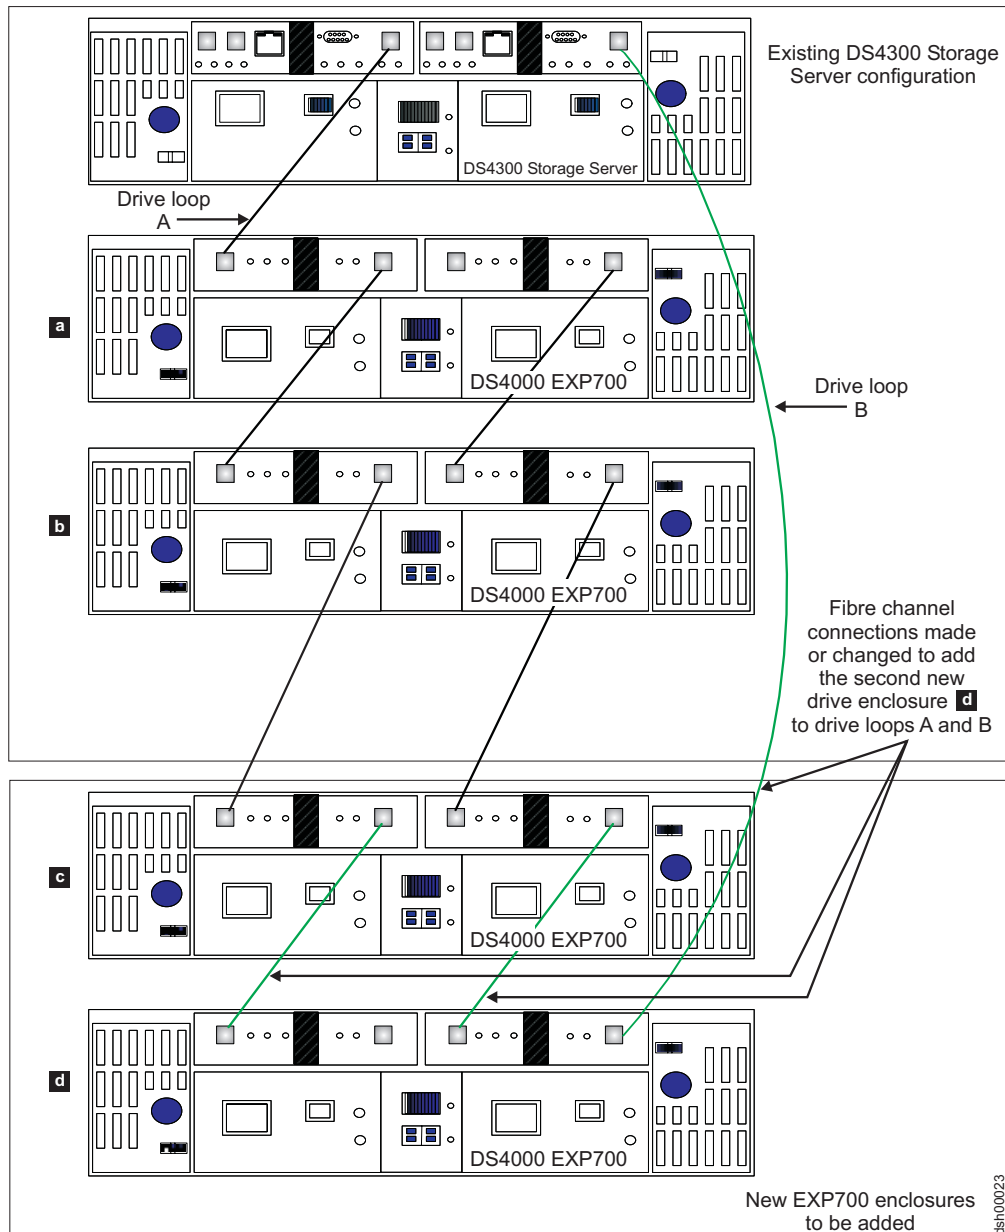

Figure 33. Cabling a second drive enclosure to the end of a functioning drive loop
- If you are connecting additional storage expansion enclosures to the end (bottom) of a drive loop, complete step 2 on page 73 through step 7 on page 74, and step 1 (immediately preceding this step) for each additional storage expansion enclosure that you intend to add. (See Figure 33 on page 86.)